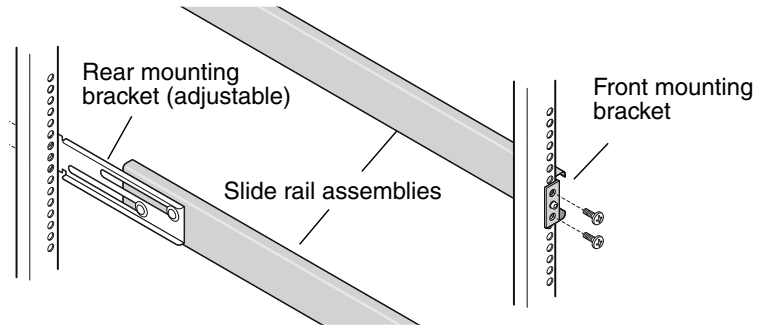

FIGURE 1-3 Installing the Slide Rails Into the Rack
2. Install one slide-rail assembly to each side of the rack as shown in FIGURE 1-3, securing them with the screws provided.